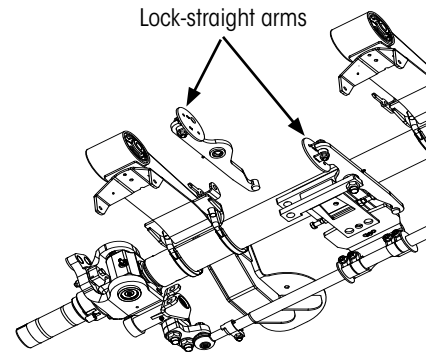

Figure 10: Lock-straight arm assembly removal
6. **Remove** both lock-straight arm assemblies (Figure 10).